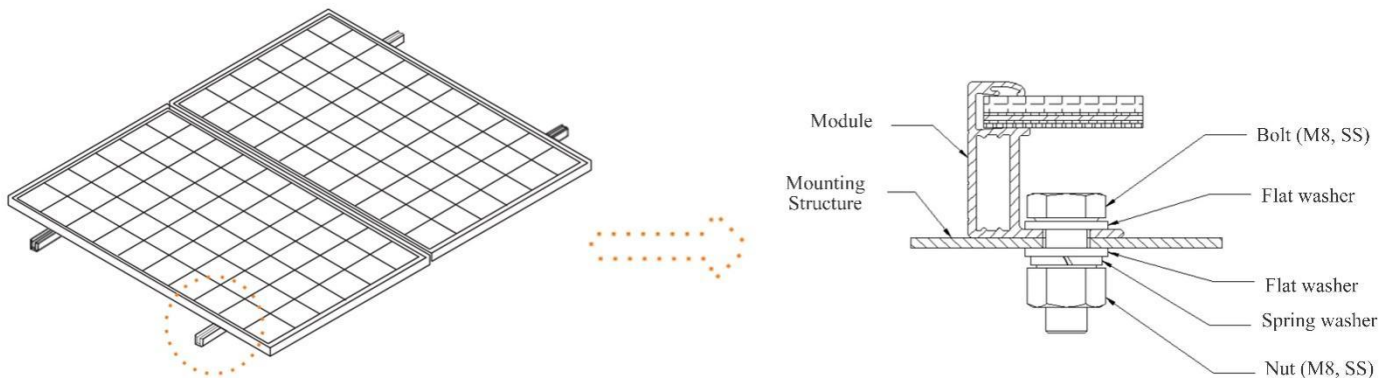

Figure 16 Installation of aluminum frame Module bolt hole
- ◇ When selecting the bolt installation method, ensure that there are at least four bolts on each Module, and the bolts need to be arranged symmetrically (Figure 16). The different mounting positions of the bolts affect the maximum load capacity of the Module (Table 5).